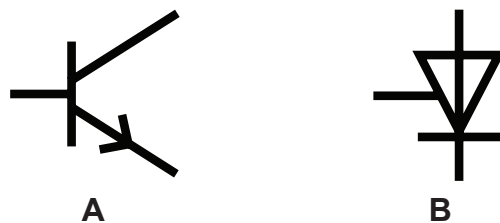

Fig. 3
5 The symbols for **two** electronic components are shown in **Fig. 3** below.
- (a) (i) Write down the name of each of the electronic symbols shown in **Fig. 3**.